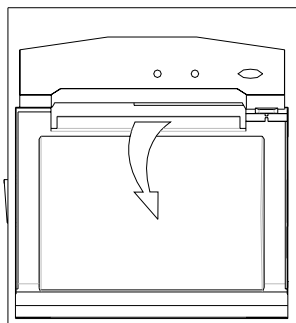

Figure 2-4 Open the recorder door
1. Follow the arrow in the figure below to open the door of the recorder, as Figure 2-4 shows.